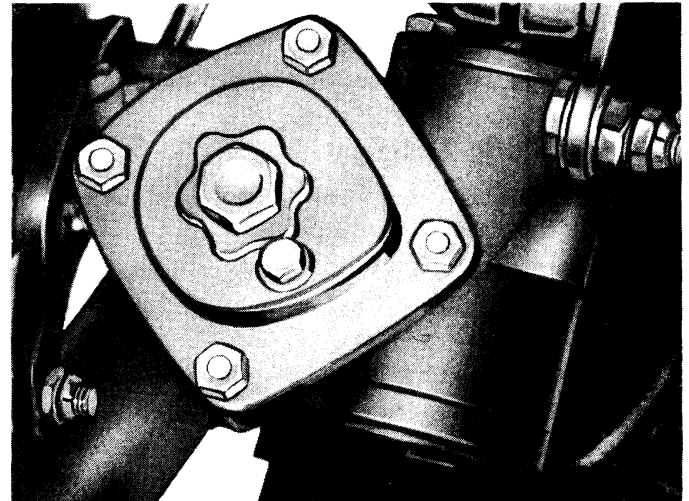

Fig. 2—Steering Gear
(4) **STEERING GEAR.** Check the lubricant level and add Multipurpose-Type Gear Lubricant, S.A.E. 90, as required (fig. 2).